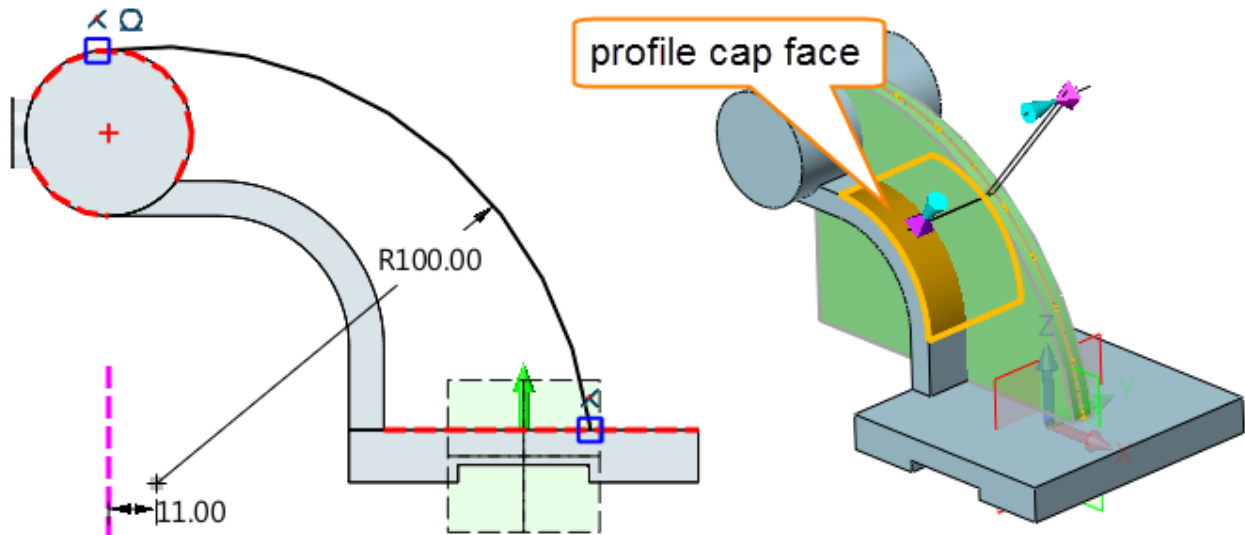

Figure 109 Extruded Rib
STEP 01 Select ZX plane, and draw a sketch, as shown in Figure109 on the left.
STEP 05 As shown in Figure109, pick the surface as the profile cap face. Keep other parameters in default. Then lick OK to finish.